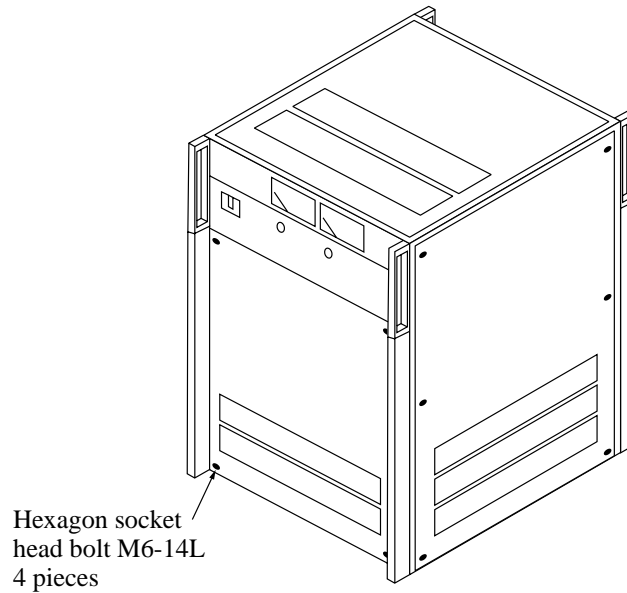

Fig. 6-14 Removing the front cover from the TYPE IV model
1. Remove the front cover from the unit. See Fig. 6-14.